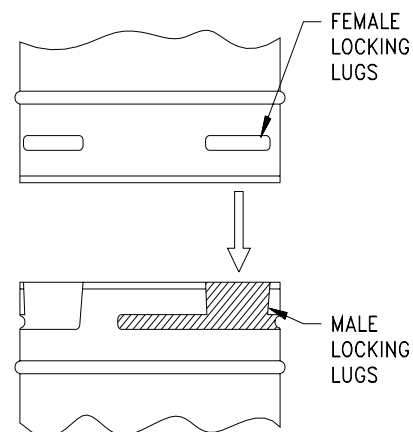

FIGURE 4: Twist-Lock Piping
DuraVent and American Metals pipes and fittings are designed with special twist-lock connections. Twist-lock procedure is as follows: four (4) indentations, located on the female ends of pipes and fittings are designed to slide straight in to the male ends of the adjacent pipes and fittings, by orienting the four pipe identifications so that they match and slide into the four entry slots on the male ends (FIGURE 4).